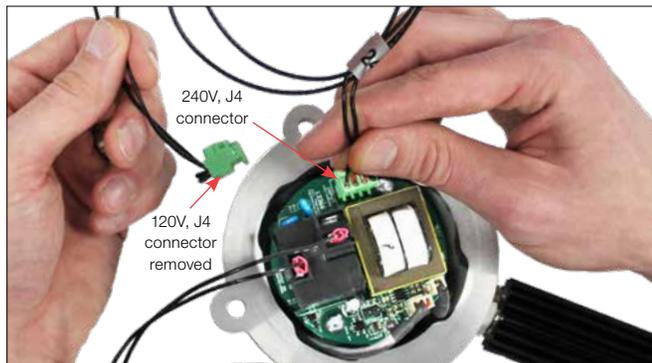

Figure 2
2. A J4 connector is supplied separately for 240V power supply. Simply remove 120V J4 connector and install 240V J4 connector. See Figure 2 and 3.